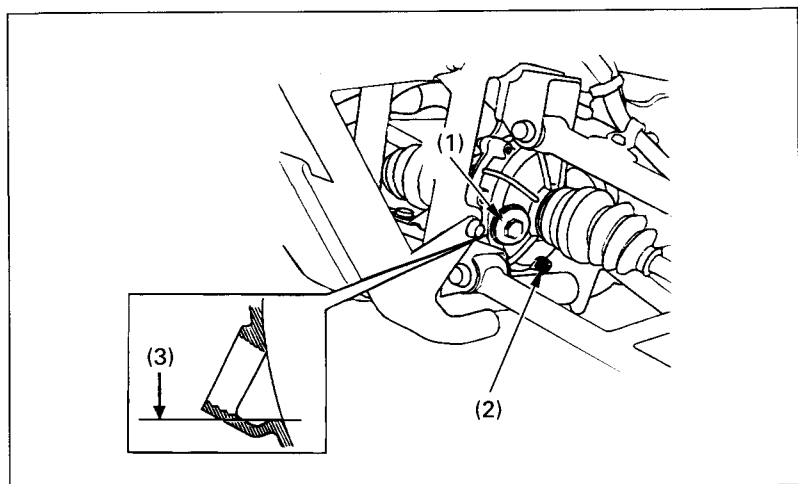

Fig. 4-17
1. To drain the oil, first place an oil drain pan under the oil drain plug (Fig. 4-17).
2. Remove the oil filler cap (1) and the drain plug (2).